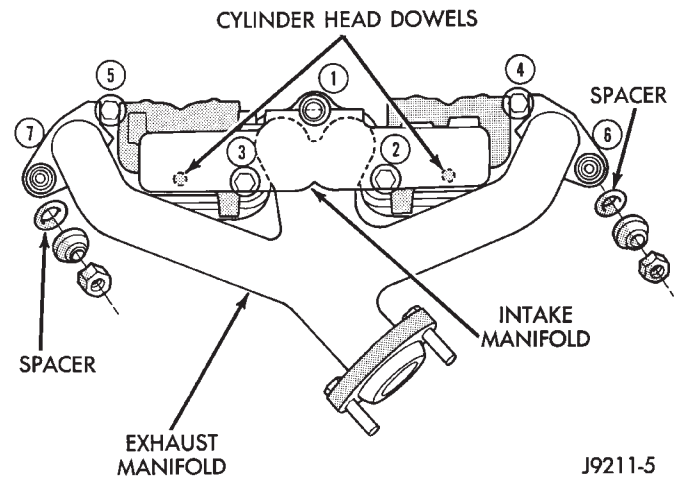
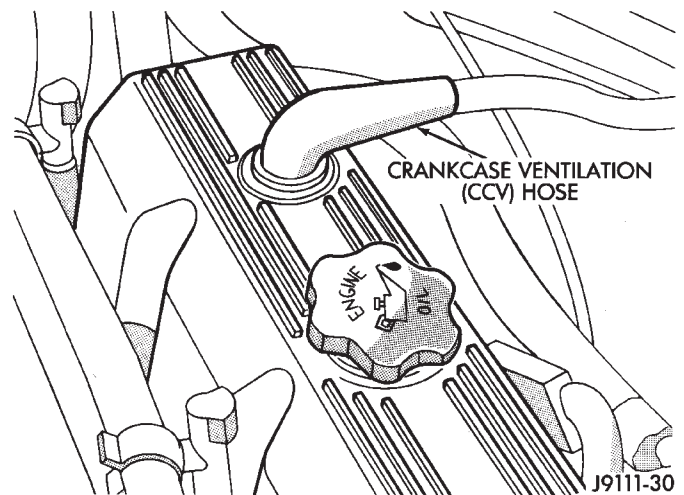

Fig. 11 Intake/Engine Exhaust Manifold Installation (2.5L Engine)
Fig. 12 Crankcase Ventilation (CCV) Hose (2.5L Engine)
- (1) Disconnect the battery negative cable.
- (2) Remove all components attached to the intake manifold.
- (3) Raise the vehicle.
- (4) Disconnect the exhaust pipe from the engine exhaust manifold.
- (5) Lower the vehicle.
- (6) Remove fasteners 2 through 5 and remove the intake manifold (Fig. 11).
- (7) Remove fasteners 1, 6 and 7 and remove the engine exhaust manifold (Fig. 11).
(1) Install a new intake manifold gasket over the alignment dowels on the cylinder head.
(2) Install the engine exhaust manifold assembly. **Exhaust manifold must be centrally located over the end studs and spacer (Fig. 11).**
(3) Tighten bolt No.1 to 41 N·m (30 ft. lbs.) torque (Fig. 11).
(4) Install the intake manifold on the cylinder head dowels (Fig. 11).
(5) Install bolts 2 through 5 (Fig. 11). Tighten these bolts to 31 N·m (23 ft. lbs.) torque.
(6) Install new engine exhaust manifold spacers over the engine exhaust manifold mounting studs in the cylinder head (Fig. 11).
(7) Tighten nuts 6 and 7 to 31 N·m (23 ft. lbs.) torque (Fig. 11).
(8) Install all components to the intake manifold.
(9) Raise the vehicle.
(10) Connect the exhaust pipe to the engine exhaust manifold. Tighten the bolts to 31 N·m (23 ft. lbs.) torque.
(11) Lower the vehicle.
(12) Connect the battery negative cable.
(13) Start the engine and check for leaks.
(9) Disconnect the electrical connectors. Pull the harnesses away from the manifold.
(10) Disconnect the crankcase ventilation (CCV) vacuum hose and manifold absolute pressure (MAP) sensor vacuum hose connector at the intake manifold.
(11) Disconnect vacuum hose from vacuum port on the intake manifold.
(12) Disconnect CCV hose at the cylinder head cover (Fig. 12).
(13) Remove the molded vacuum harness.
(14) Disconnect the vacuum brake booster hose at the intake manifold.
(15) Remove bolts 2 through 5 securing the intake manifold to the cylinder head (Fig. 11). Slightly loosen bolt No.1 and nuts 6 and 7.
(16) Remove the intake manifold and gaskets. Drain the coolant from the manifold.
(1) Install the new intake manifold gasket over the locating dowels.
(2) Position the manifold in place and finger tighten the mounting bolts.